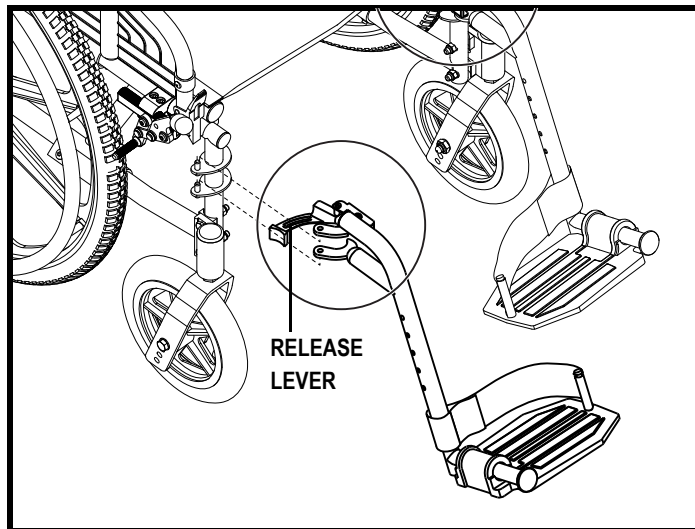

Figure 15. SFR Release
1. Push the release lever back. See figure 15.